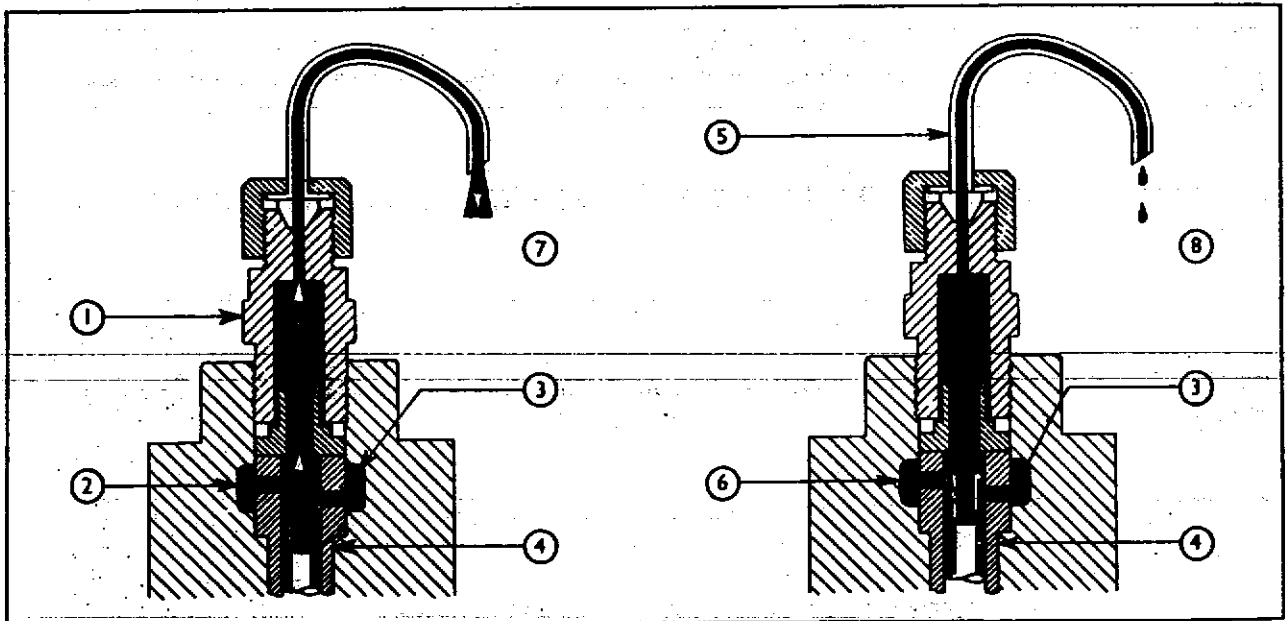

Fig. 32
In Fig. 32 the L.H. view shows the pump plunger at the bottom of its stroke, fuel can flow through both ports and out through the spill pipe attached to the delivery valve holder.
1. Remove the delivery valve, spring and volume reducer from next element in the firing order sequence, i.e. No. 2 (4 cyl.) and No. 5 (6 cyl.). Tighten the delivery valve holder to 51.5 to 57 Nm (5.26 to 5.81 kgf m or 38 to 42 lbf ft) torque and fit the spill pipe Tool No. CT.9023 (see Fig. 32).